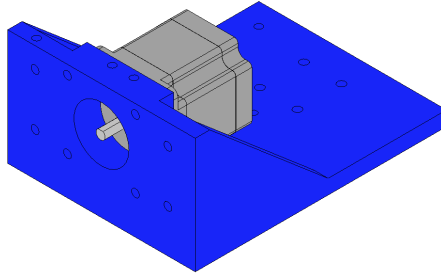

Figure 10: *X-Axis driver* with the NEMA23 motor installed.
4. Attach a NEMA23 motor in the *X-Axis driver*. Use four (4) M4 screws with their corresponding nuts. The assembly is shown on figure 10.